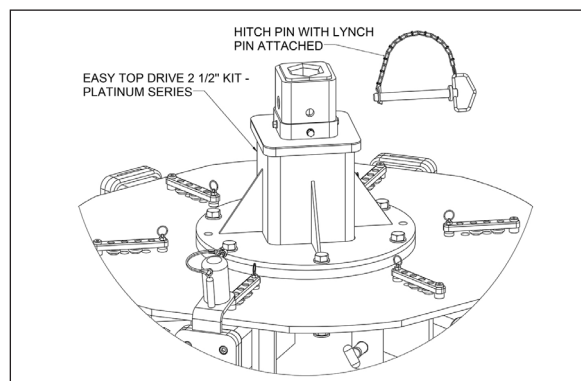

Figure 16. Hitch Pin With Lynch Pin Attached
17. Attach the Easy Drive Top [K-MM0369] of the Six Shooter to the Auger Drive, securing it with the provided Hitch Pin With Lynch Pin Attached [P-MM0038]. See Figure 16.